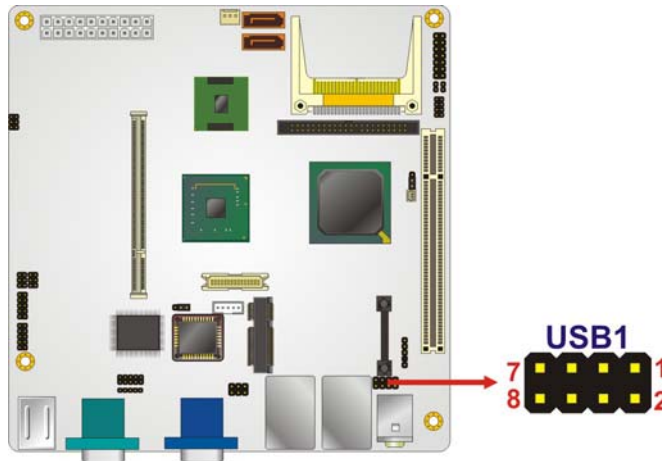

Figure 4-17: USB Connector Pinout Locations
- CN Location:** See **Figure 4-17**